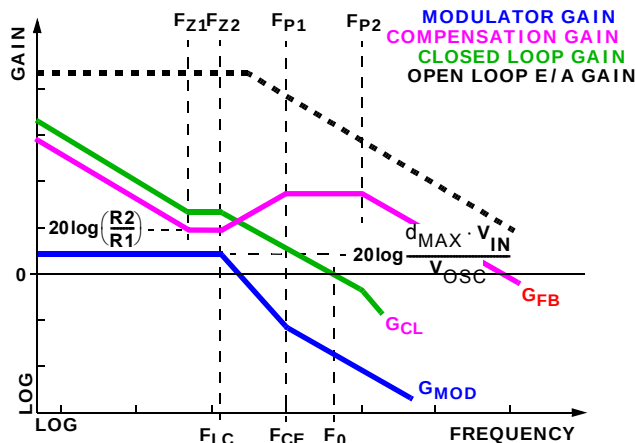

FIGURE 25. ASYMPTOTIC BODE PLOT OF CONVERTER GAIN
Figure 25 shows an asymptotic plot of the DC/DC converter's gain vs frequency. The actual Modulator Gain has a high gain peak dependent on the quality factor (Q) of the output filter, which is not shown. Using the previously mentioned guidelines should yield a compensation gain similar to the curve plotted. The open loop error amplifier gain bounds the compensation gain. Check the compensation gain at F_{P2} against the capabilities of the error amplifier. The closed loop gain, G_{CL} , is constructed on the log-log graph of Figure 25 by adding the modulator gain, G_{MOD} (in dB), to the feedback compensation gain, G_{FB} (in dB). This is equivalent to multiplying the modulator transfer function and the compensation transfer function and then plotting the resulting gain.